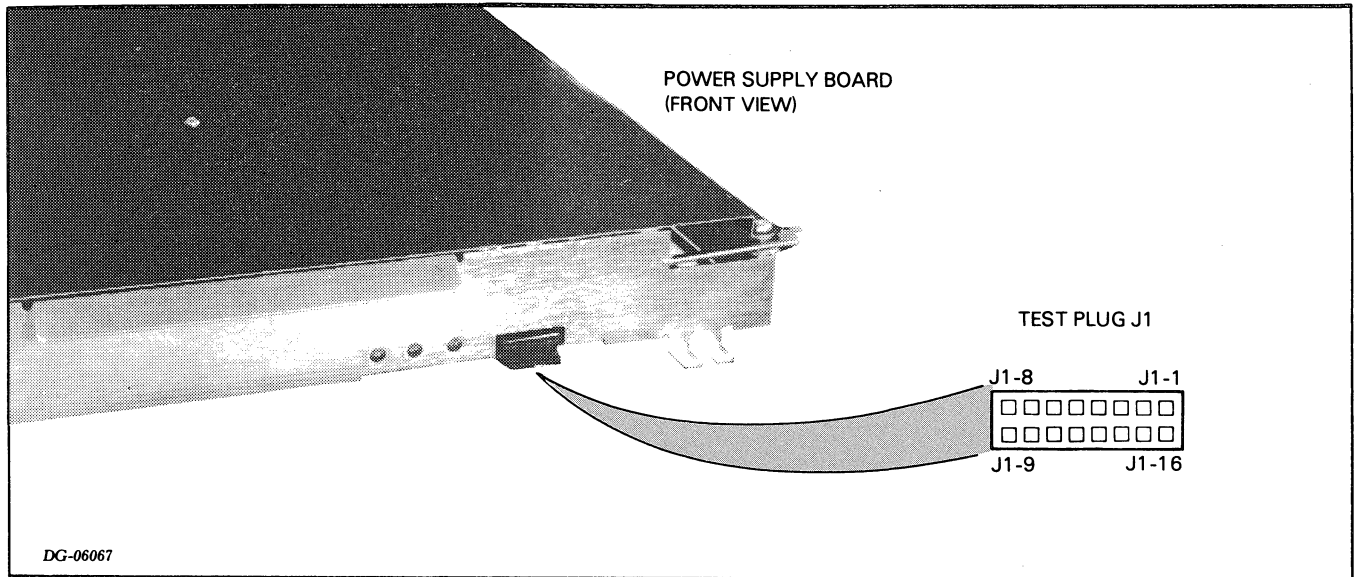

Figure 6.8 TEST PLUG
2. Check the +5V voltage at test plug J1-15 (see Figure 6.8). If +5V is between 5.10V and 5.20V, go to "Final Checkout"; otherwise, continue the checkout.
- If -11V is NOT between -11.0V and -12.5V (-30VNR not ok), check the **VREF** at test plug J1-14 (see Figure 6.8). If **VREF** is 5.8V, replace the VNR unit; otherwise, replace the power supply board.
- If -11V is between -11.0V and -12.5 (-30VNR ok), check the **HVS** voltage at test plug J1-4 (see Figure 6.8). If **HVS** is greater then 2.9V, replace the power supply board; otherwise, replace the VNR unit.
7. Recheck the +5V voltage at test plug J1-15 (see Figure 6.8). If it is between 5.10V and 5.20V, go to "Final Checkout"; otherwise, try replacing the internal cable (wiring harness). If this does not work, get help from DGC Field Service.
- Make sure the LOCK switch is in the UNLOCK position. If the fans still do not stop, check the $\overline{\text{PWR FAIL}}$ voltage at test plug J1-3 (see Figure 6.8).
- If $\overline{\text{PWR FAIL}}$ is less than 0.4V, check PON at test plug J1-11 (see Figure 6.8). If PON is less than 0.4V, replace the VNR unit; otherwise, replace the power supply board.